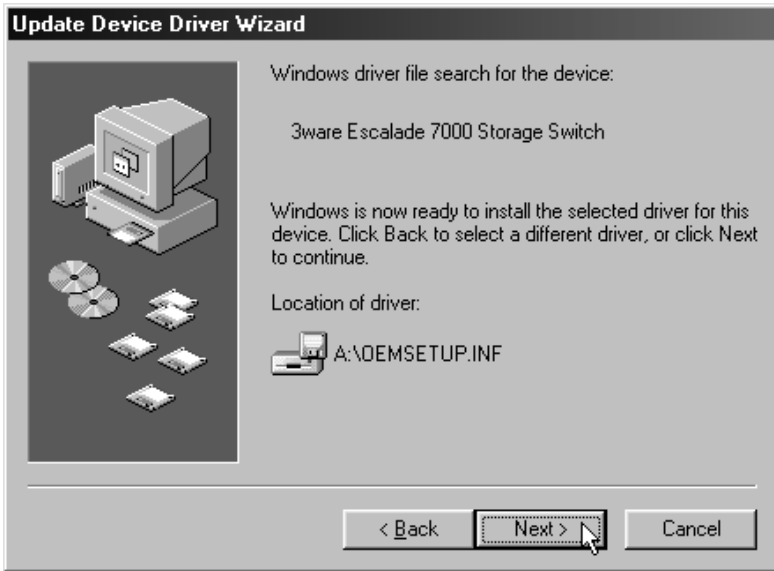

Figure 33. Final driver installation screen
- 5 The final update driver screen should appear (Figure 33), followed by a progress bar which appears briefly, then by a **System Settings Change** dialog.